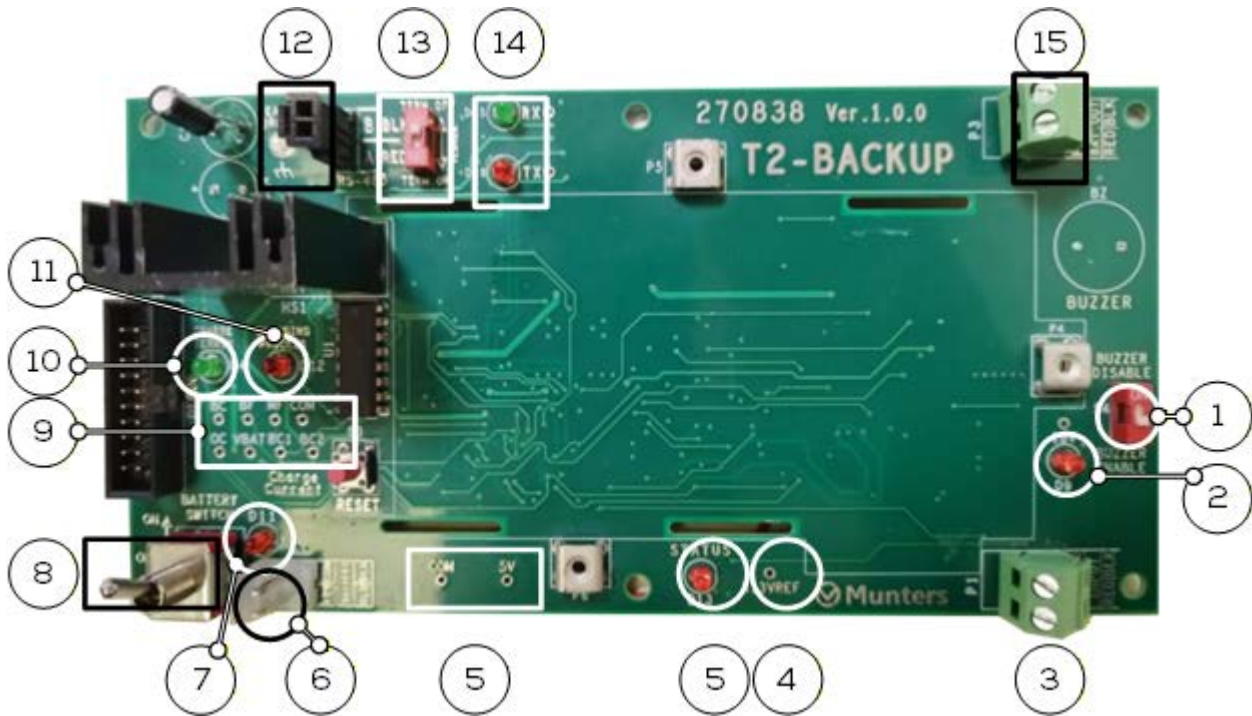

Figure 48: Battery Board Detailed Schematic
*NOTE* Refer to Figure 48 when numbers (#) are mentioned regarding the battery board's components.